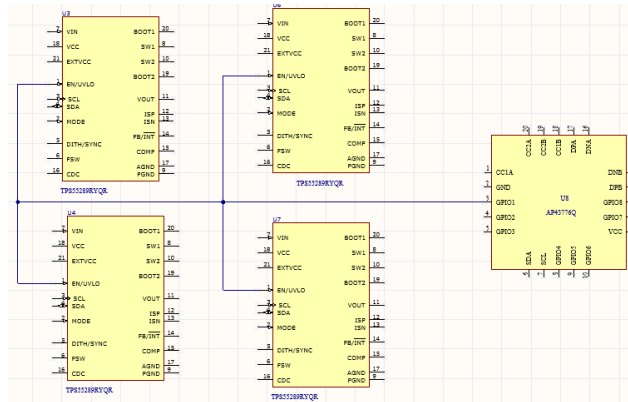

Figure 19: A simple schematics connection for super low standby power
**NOTE:** When system enters standby-power mode in this demo board, TPS55289 is still working and the working current is about 400uA. For super lower standby power consumption design, the system designers can control EN pin (Pin 2) of TPS55289 through a GPIO pin of AP43776Q for entrance and exit of standby power mode. When system detaches the jig, AP43776Q will pull down EN pin of TPS55289 via GPIO pin and make TPS55289 enter shut down mode (In this condition, the super lower standby power is only about 10mw). A simple schematic for low standby power is proposed in Figure 19.